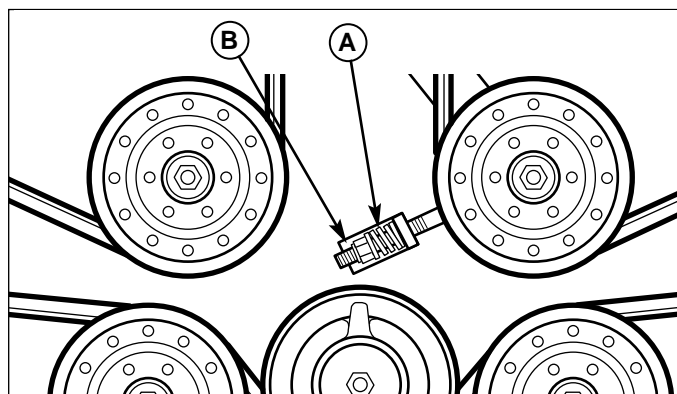

Figure 32. Mower PTO Belt
4. Loosen the spring compression nut (B, Figure 32) to release the belt tension.
7. Install the drive belt on the PTO pulley, the spindle pulleys and idler pulleys. Tighten the spring compression nut (B, Figure 32) until the belt tension spring (A, Figure 32) is 1-1/2" long.